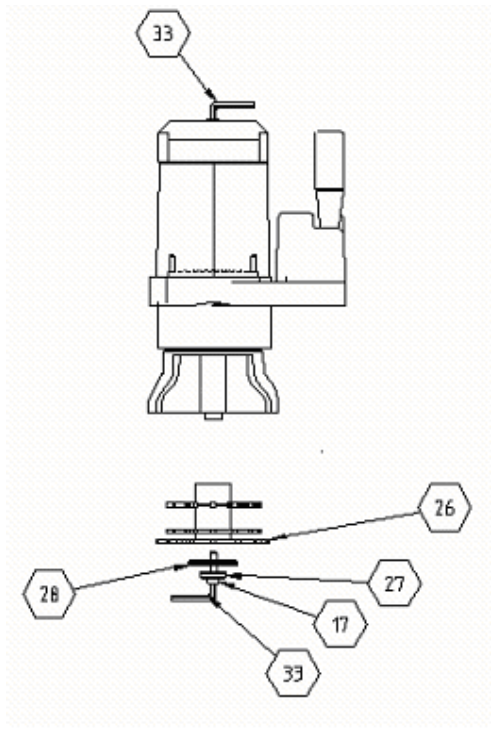

Figure-6
8.1.3 Remove the milling cutter group after removing the M8x20 hexagonal bolt with the 6 mm hexagonal key shown in Figure-6 No. 33. After replacing the cutter group, tighten again the hexagonal bolt.